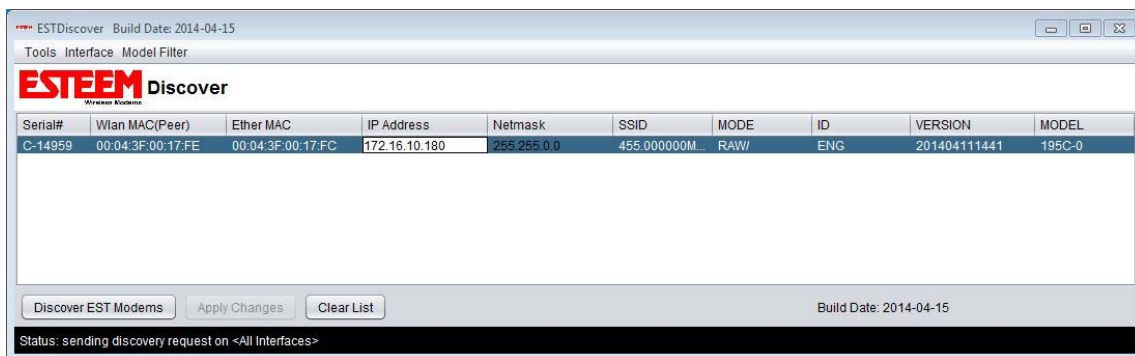

Figure 5: ESTeem Discovery Utility
1. Verify the basic hardware configuration from Chapter 2 and open the 195 Narrowband Configuration Utility (Figure 5). Press the *Discover EST Modems* button to continue.
2. The ESTeem 195C/M/H will be displayed (Figure 5). If the ESTeem 195C/M/H is not on the same IP subnet as the computer, double click on the IP address and Netmask to make the necessary changes. Press the *Apply Changes* button when complete.